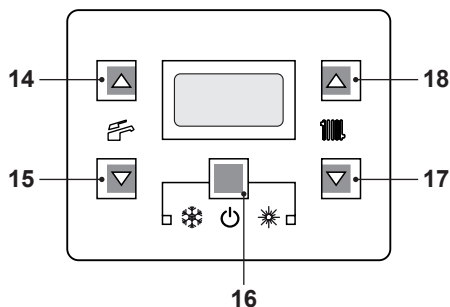
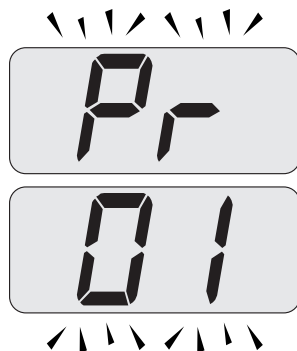
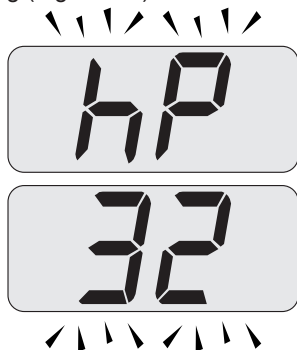

Fig. 10.14
Fig. 10.15
Fig. 10.17
- Enter in "programming mode" by sequentially pressing and holding in keys, 16 - 17 and then 18 (Fig. 10.14) for 10 seconds until the letters **Pr** that alternate with code **01** are displayed on the LCD display, indicating that "parameter 01" (Fig. 10.15) has been activated.
- Press keys 17 and 18 (Fig. 10.14) at the same time until the LCD display displays the letters **LP** that alternate with the heating water temperature value (e.g.**45**), indicating the activation of the "flue sweep function" at minimum output (Fig. 10.16).
- By pressing 18 (Fig. 10.14) it is possible to change power in flue sweep mode: with the letters **hP** on the LCD display which alternate between the heated water temperature (i.e.**32**), we are in the "flue sweep function" at the minimum power during heating (Fig. 10.17).
- Press sequentially keys, 16 - 17 and then 18 (Fig. 10.14) and hold in for 10 seconds to exit the "flue sweep mode" and return to the previously set boiler status (Fig. 10.20).